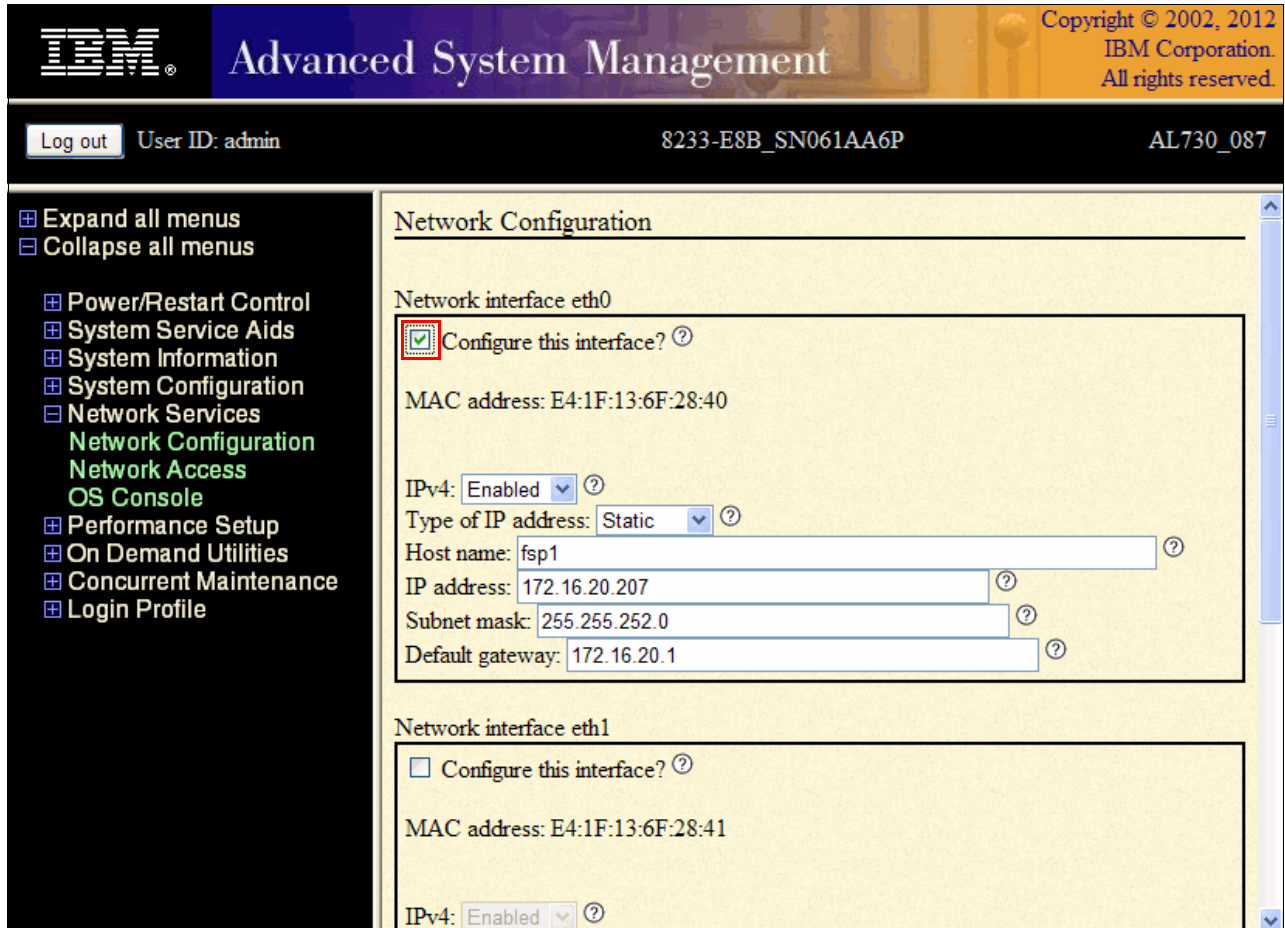

Figure 2-4 HMC1 port setup using the ASMI
- Expand the **Network Services** menu and click **Network Configuration**, then select **IPv4**. After that, you can configure the IP. Figure 2-4 shows the corresponding menu.